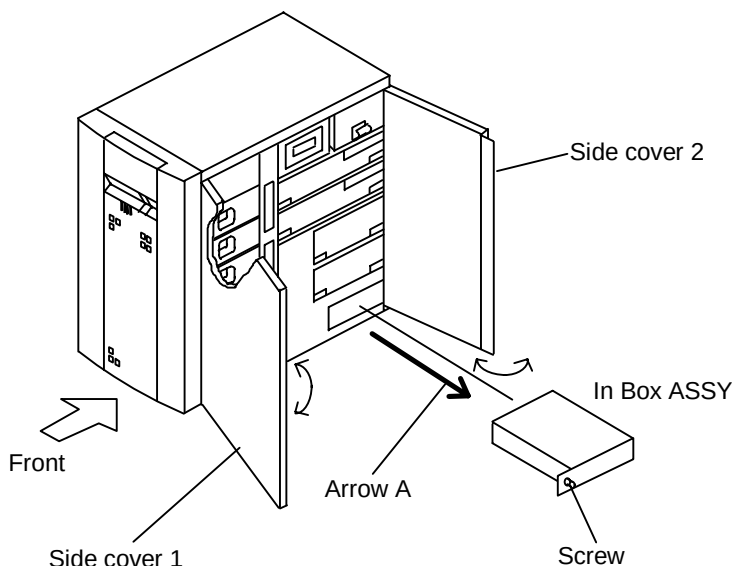

Figure 12.1 Replacing In Box ASSY
12. Replacing In Box ASSY (See Figure 12.1.)